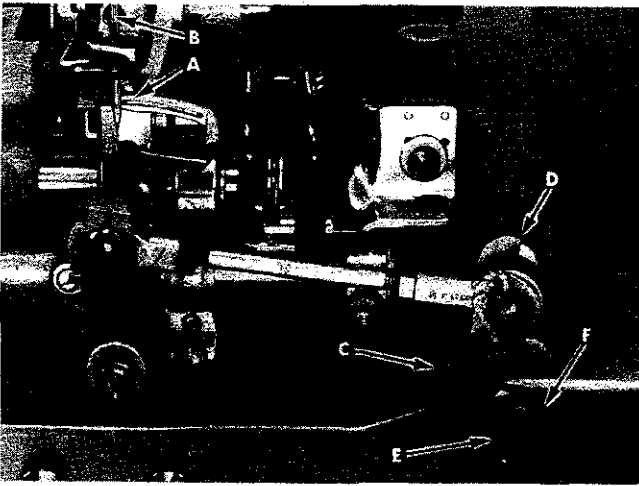
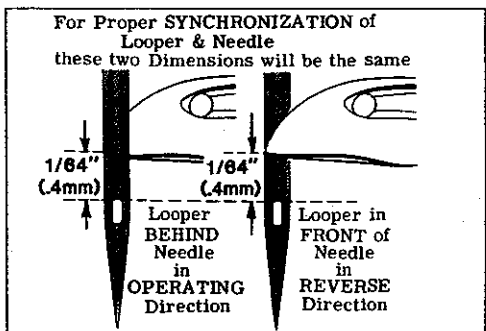
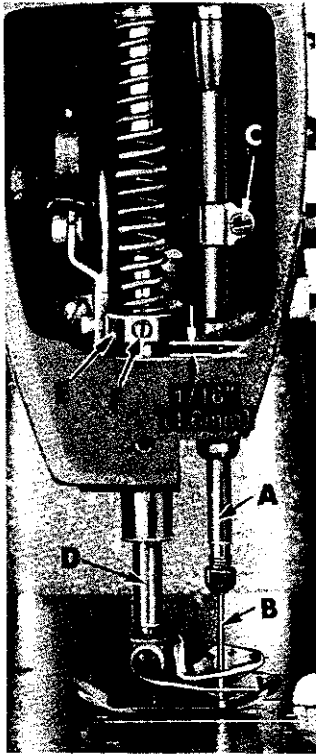

Fig. 3
Fig. 4
Fig. 8
Turn handwheel in the operating direction until the point of the looper (A, Fig. 3) moving to the left, is even with the left side of needle (B). Note the height of the eye of the needle with respect to the looper point (See Fig. 4). Turn the handwheel in the reverse direction until the point of the looper again moving to the left, is even with the left side of needle (See Fig. 4). If the height of the eye of the needle with respect to the looper point are the same, looper and needle motions are synchronized - a variation of .005 inch (.127mm) is allowable. If the distance from the eye of the needle to the point of the looper is greater when the handwheel is turned in the operating direction, the looper drive lever rocker shaft will have to be moved slightly towards the rear. Moving the shaft towards the front acts the reverse.
NOTE: The 1/64 inch (.4mm) dimension shown in Fig. 4 is for final setting of needle bar height.
Loosen screw (C, Fig. 3) in looper drive lever (D). A rod of .146-40 thd. or Union Special Screw No. 22870 A can be threaded into the looper drive lever rocker shaft through the center of thrust adjusting screw (E). Tap or pull slightly as required to position shaft for proper synchronization. Tighten screw (C) securely and remove rod or screw used to position shaft.
Height of needle bar (A, Fig. 8) is correct when the top of the eye of needle (B) is $\frac{1}{64}$ inch (.4mm) below the underside of looper as shown in Fig. 4. Adjustment can be made by loosening screw (C, Fig. 8), move needle bar (A) up or down as required, retighten screw.
Height of presser bar (D, Fig. 8) is set correctly if it is possible to remove the presser foot when the foot lifter lever, located at the back of the machine and extending above the upper crank chamber cover is fully actuated (pulled to the right). There should be approximately 1/16 inch (1.6mm) clearance between lower surface of the Presser bar connection and guide (E) and bottom surface of head opening in the bed when foot lifter lever is released and presser foot lying flat on the throat plate with feed dog below throat plate.